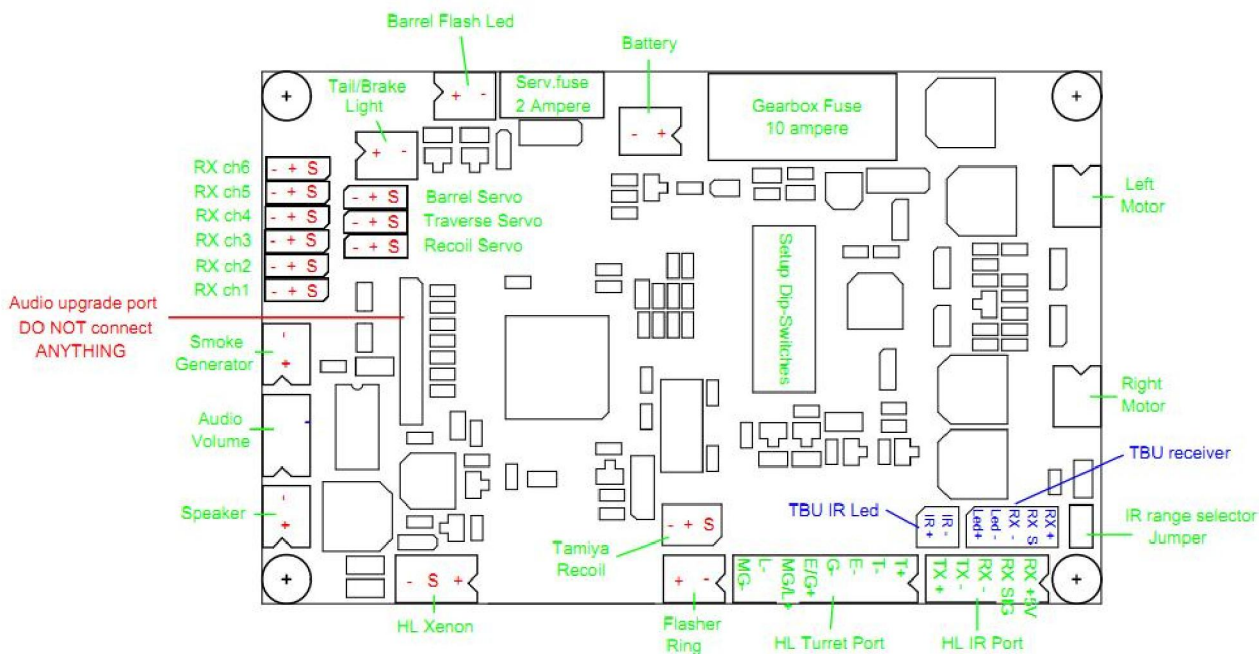

Fig. 2b - Layout of the IBU2 Pro version
- Fig. 2b **Layout of IBU2 Pro version**